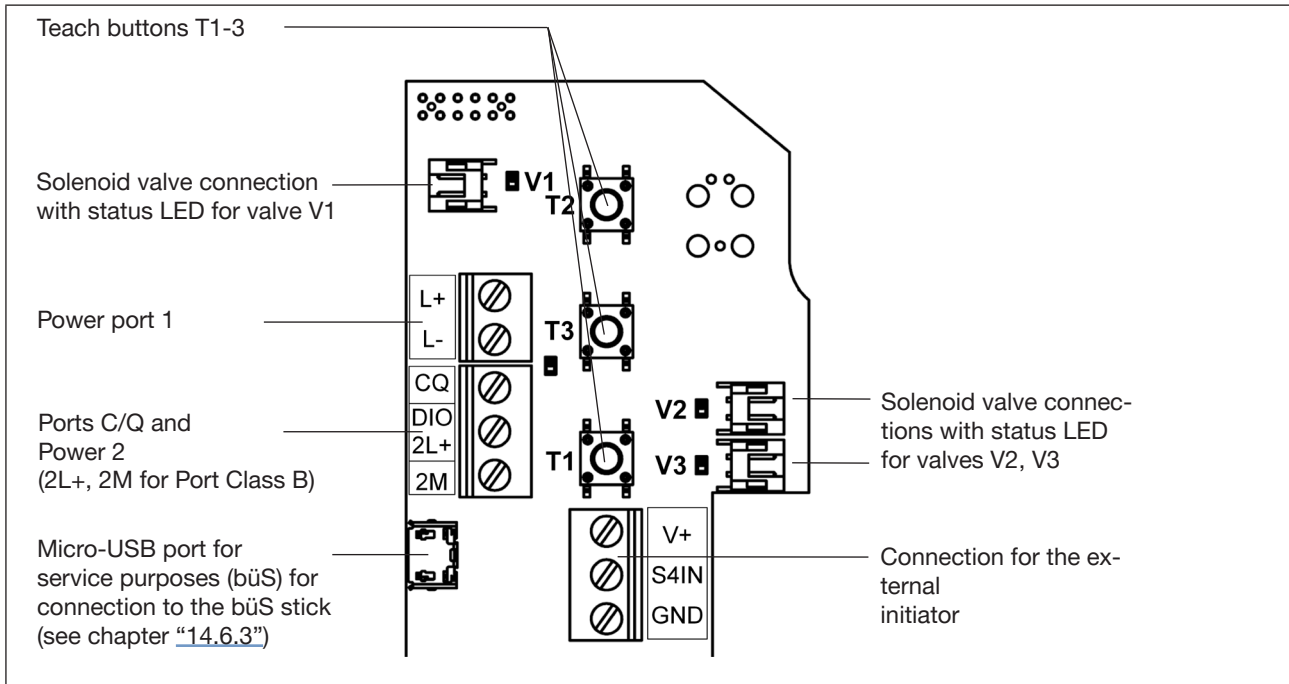

Fig. 36: Electronic module IO-Link (in the example: Port Class B)
- Open the housing (see chapter “8 Opening and closing the housing” on page 38) so that the electronic module is visible – see “Fig. 36” below.
Firmware updates can only be made using the service interface (micro-USB port for service purposes (büS)) on the electronic module – see “Fig. 36”. The **büS stick** (or the USB-büS-Interface set 2 – see “14.6.3”) and the “Bürkert Communicator” are required for this - see “14.6.1”.